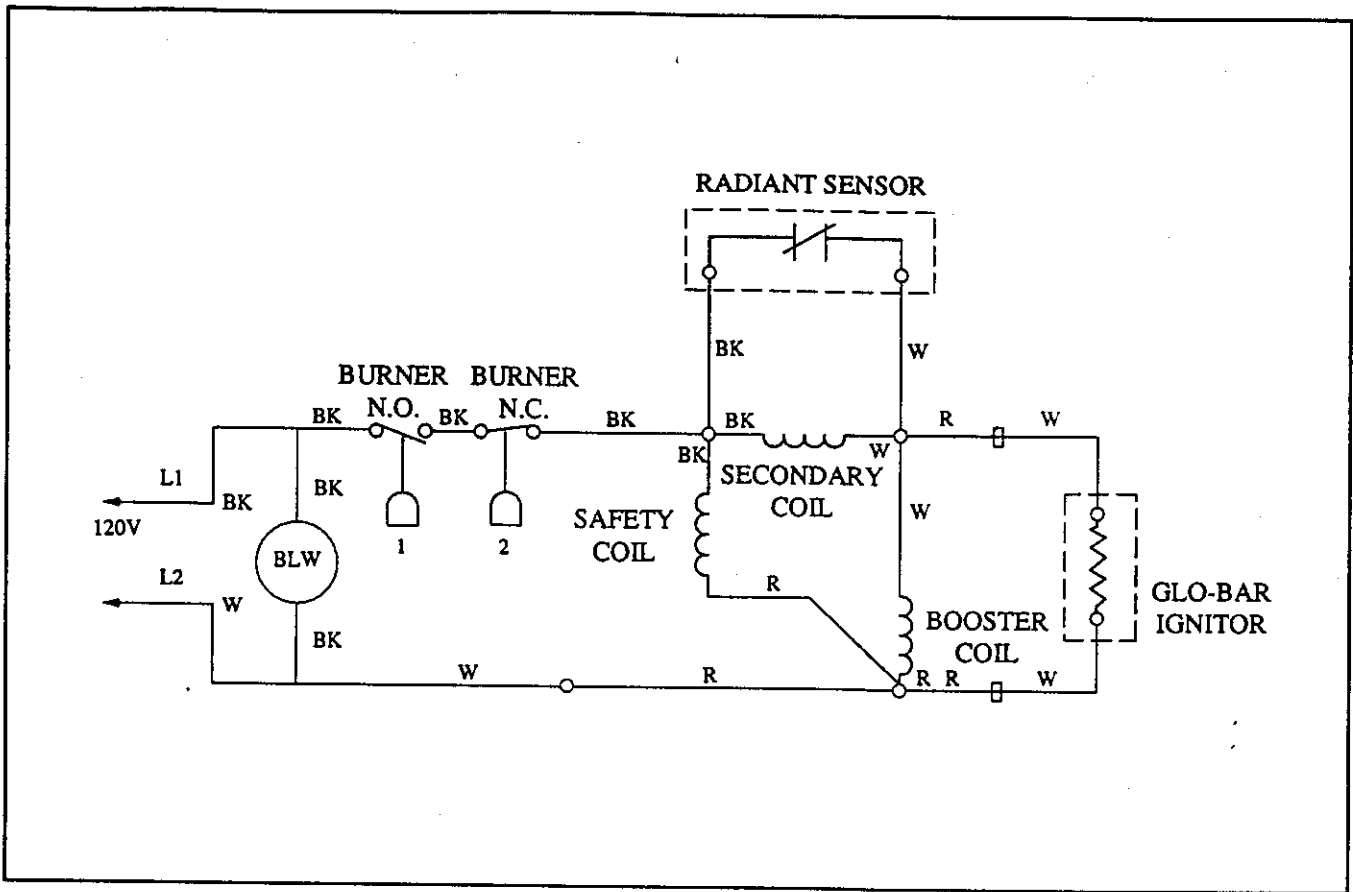

Figure 2-1
• Starting Circuit (Figures 2-1 and 2-2)